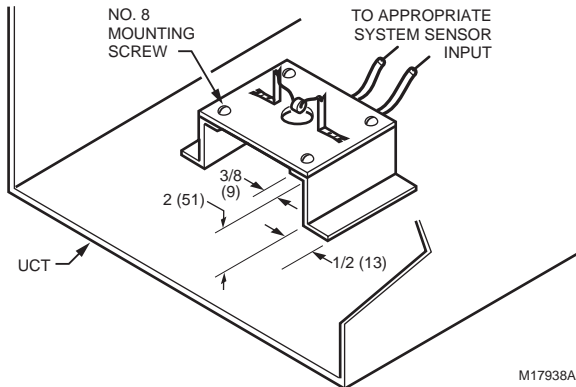

Fig. 2. Mounting C7150B [C7150B1004 shown].
1. Install on a mounting bracket (not included) inside the mixed air or discharge air duct using No. 8 mounting screws and nuts. (See Fig. 2).
NOTE: Fig. 2 displays bracket (not included) and suggested bracket dimensions in in. (mm).